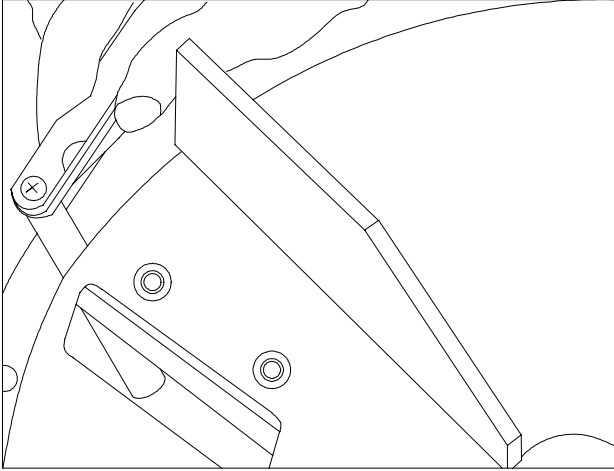
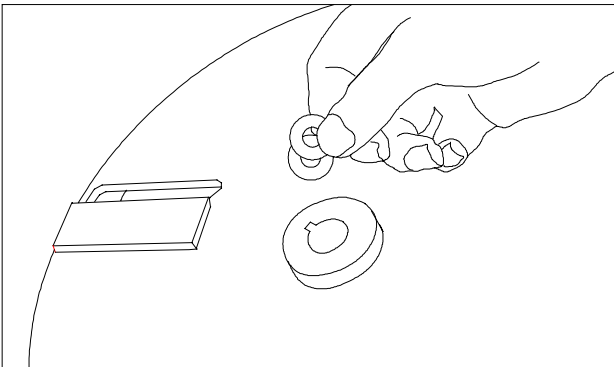

fig. 6
fig. 7
6. Retain shim washers used at end of crankshaft for use at impeller reinstallation (see fig. 7). However, your unit may or may not have required the use of shim washers.
15. Tighten impeller bolt. Torque impeller bolt to 50 Ft. Lbs. (68 N·m) (see item 51 on page 11).
17. If gap is less than 0.040" (0.51mm), add shim washer 890130 (0.060" {1.52mm} thick) and/or 890131 (0.020" {1.02mm} thick), whichever is required. If gap is more than 0.080" (2.03mm), remove one or more shim washers as needed to obtain correct gap (see fig. 6 & fig. 7). The chipper will function at up to a maximum of 0.125" (3.18mm) gap.